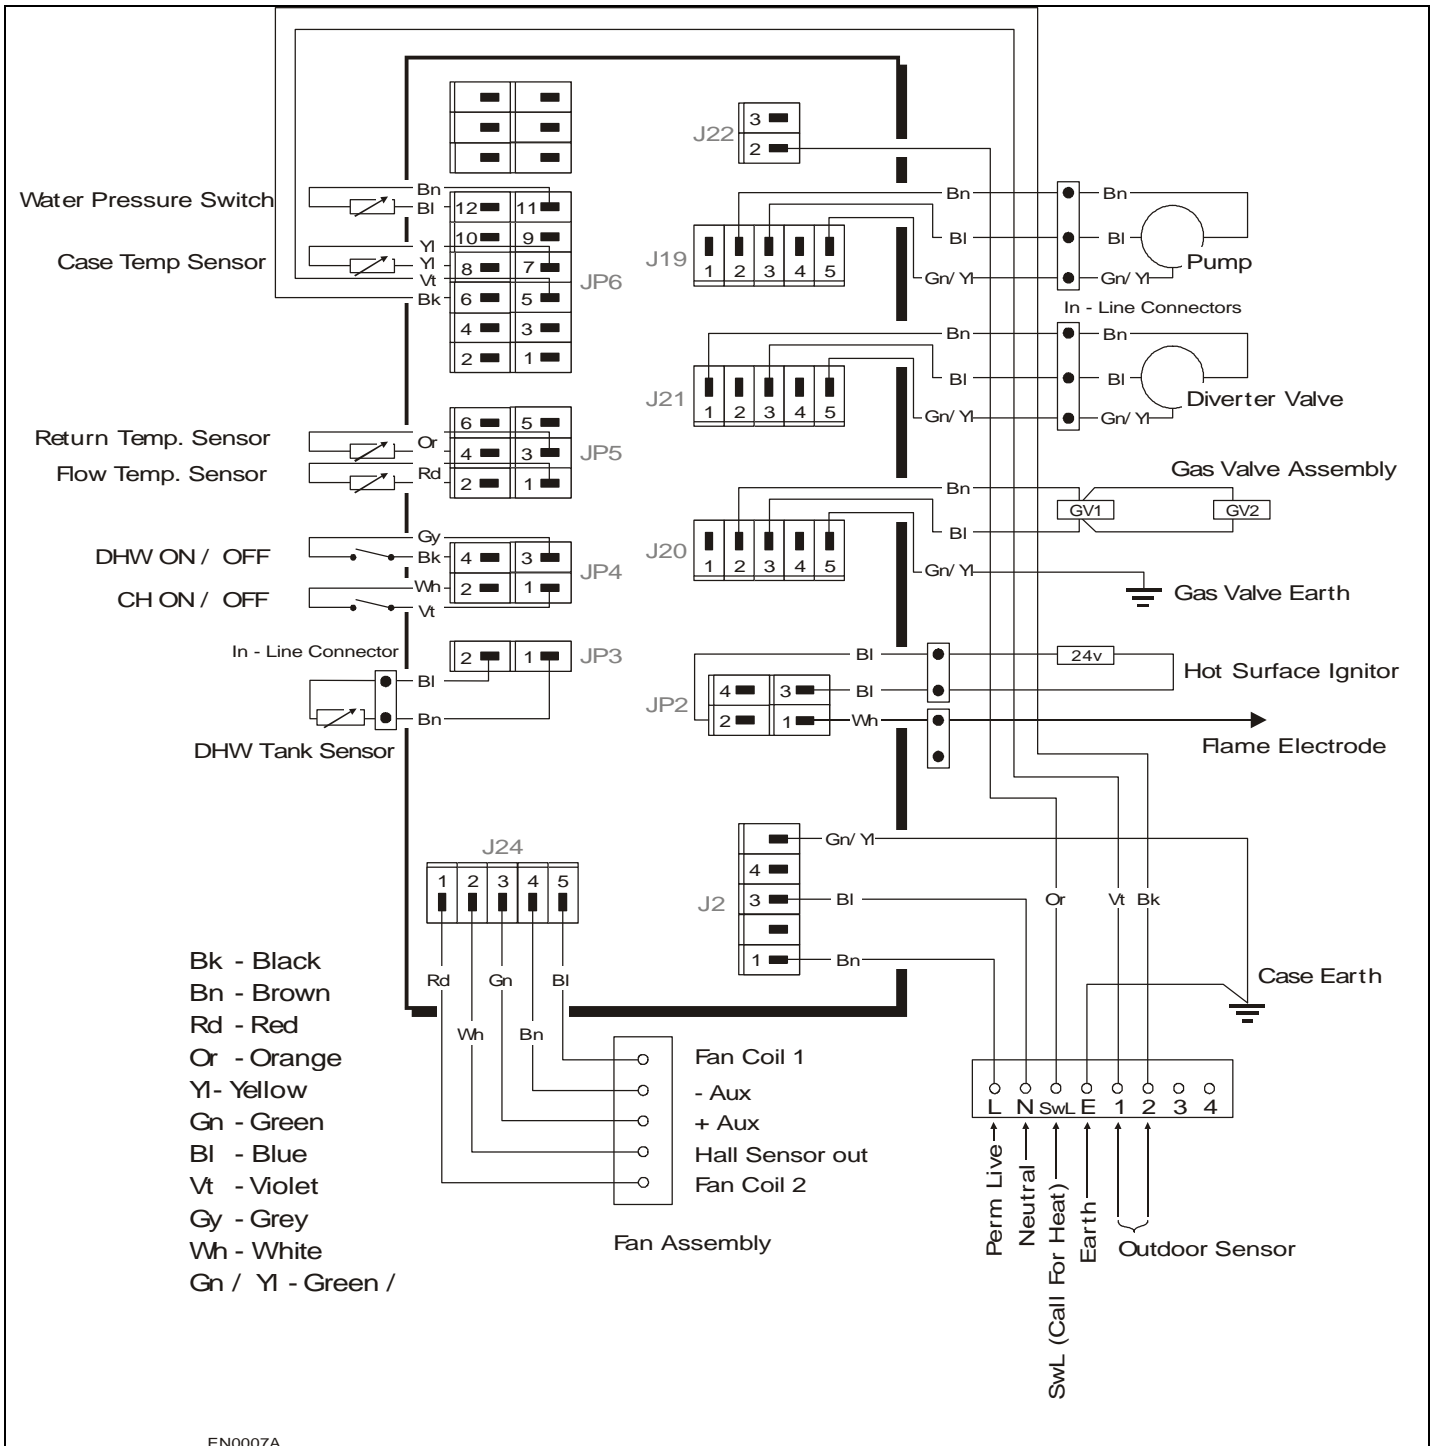

Fig. 24
- 1. Turn off the gas service cock. Fit a pressure gauge to the gas inlet pressure test point on the gas control valve. Connect a differential pressure gauge or 'U' tube manometer between the burner pressure test point (high pressure side) and the reference pressure test point (low pressure side) on the gas valve (See Fig. 24).
- 3. Sufficient flexible tube and 'T' piece connector to enable these instruments to be connected to the gas valve in the arrangement shown in Fig. 24.
- 1. Remove sealing screws and connect the two differential pressure gauges to the gas valve as shown in Fig. 24 and remove the adjustment screw sealing cap.